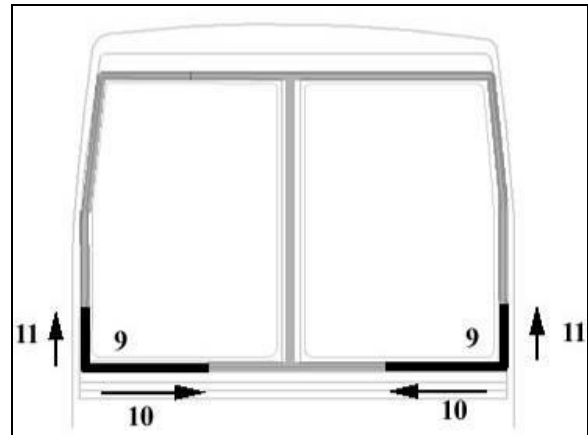

FIGURE 62
9. Bend the corners and insert at location identified #9 (Figure 62).
10. Insert the rubber extrusion at the location identified #10 (Figure 62).
11. Insert the rubber extrusion at the location identified #11 (Figure 62).